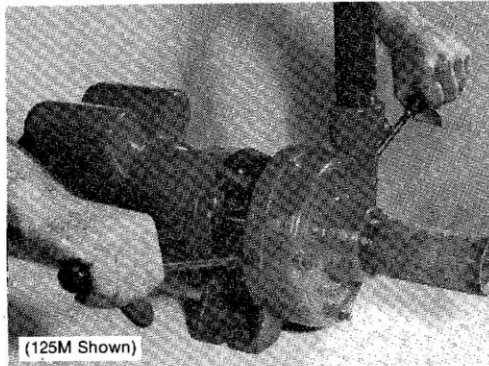

FIG. 1
- To pry components apart, use two screwdrivers - opposite each other - in openings provided between the bracket and case. (Fig. 1)